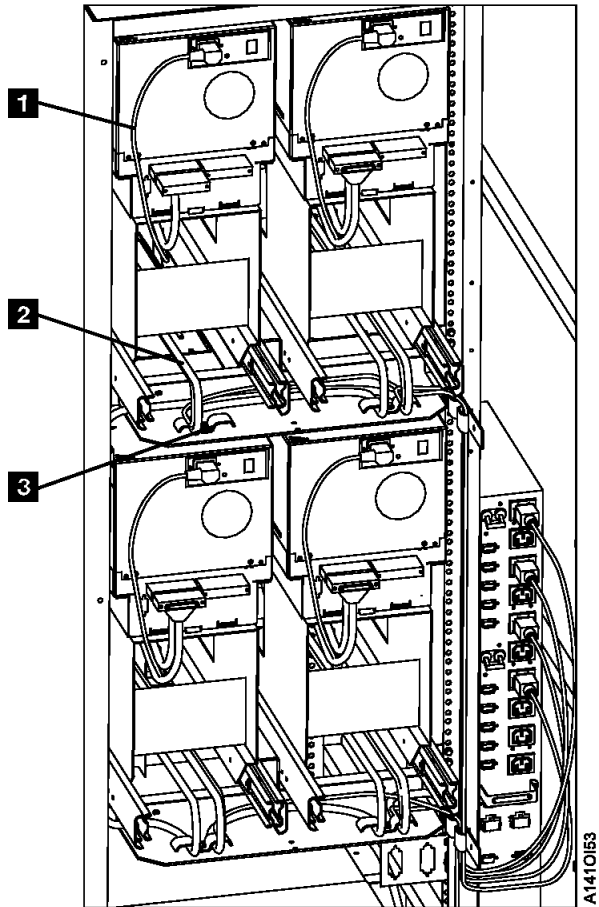

Figure 6-15. SCSI Cable Locations for Single A50
- \_\_\_ 18. Route SCSI cables from A50 along the articulating arm and clamp in place leaving large loops of cable at each side of frame. Refer to Figure 6-15 on page 6-33.